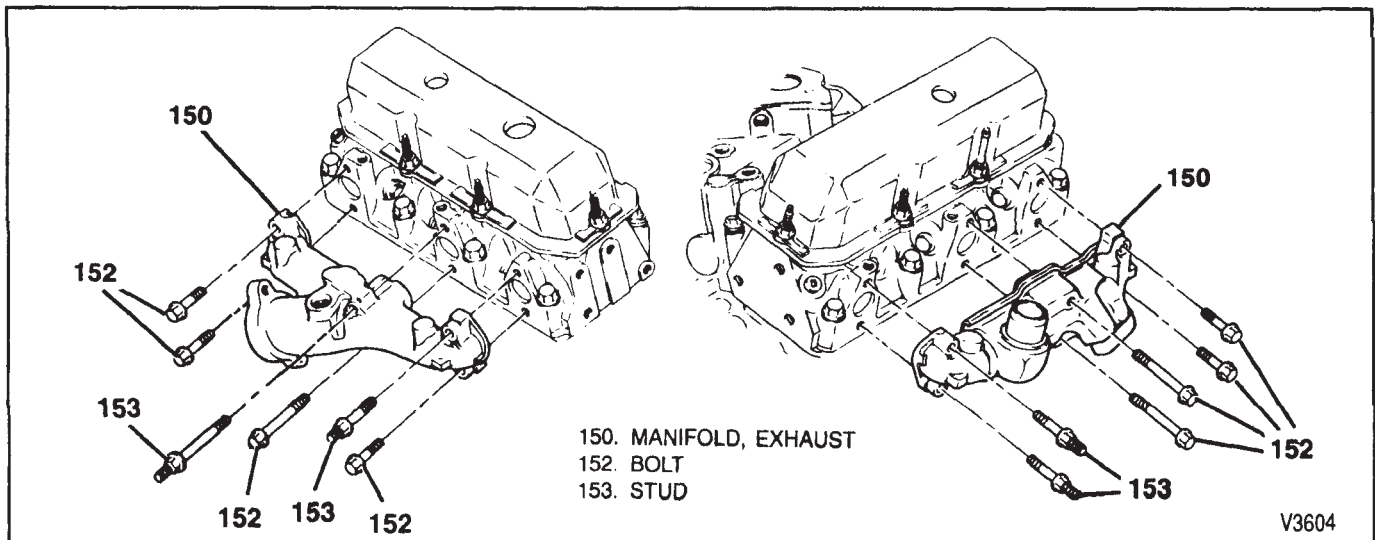

Figure 18—Exhaust Manifolds and Components
**Remove or Disconnect (Figure 18)**
**Install or Connect (Figure 18)**